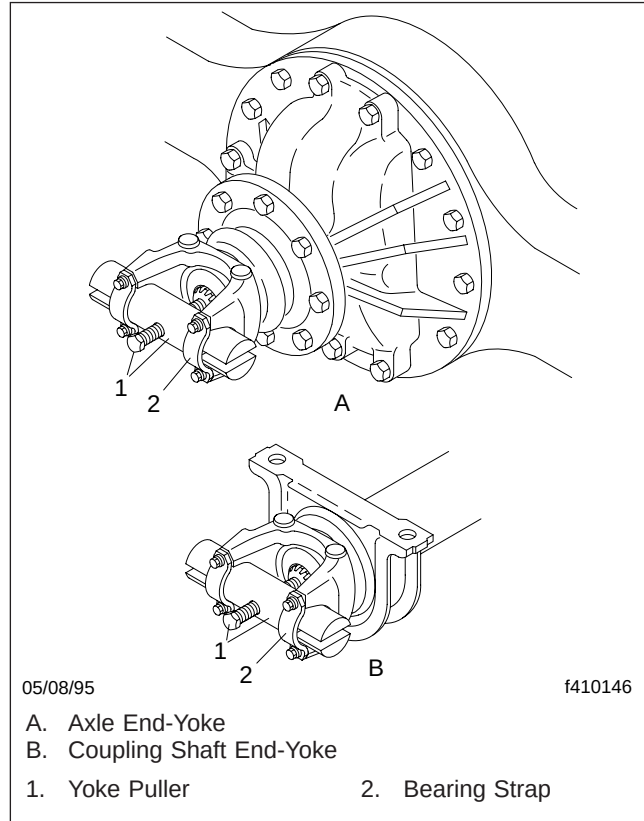
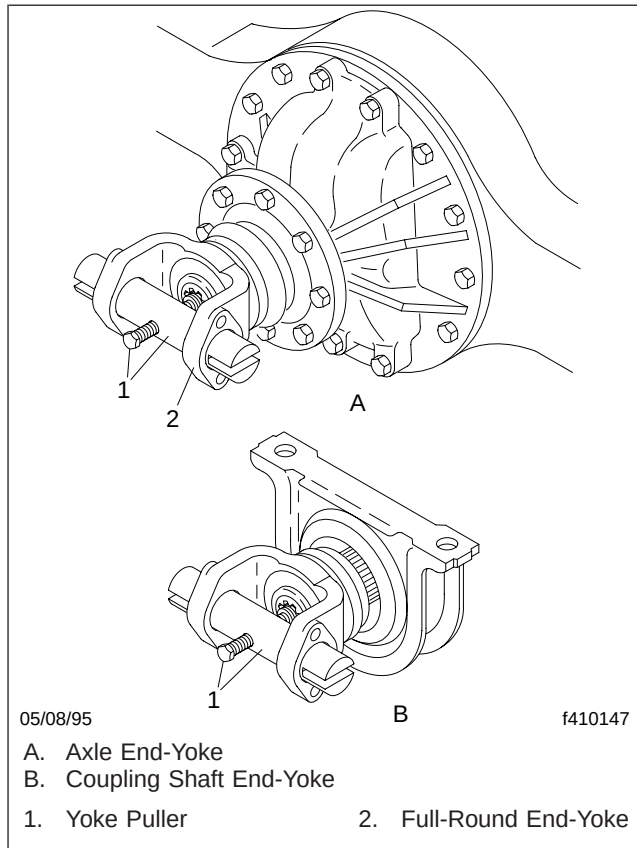
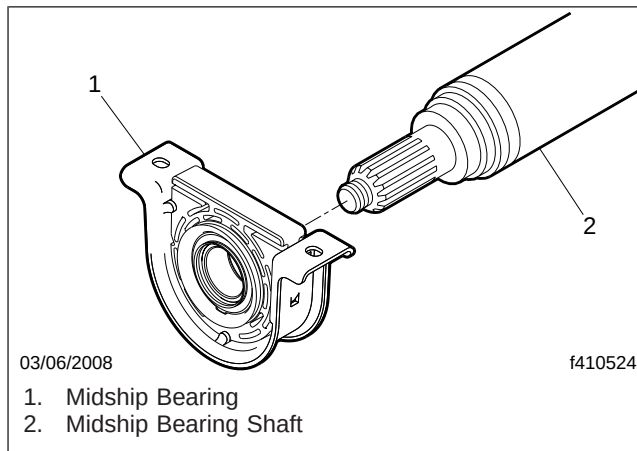

Fig. 13, Removing a Half-Round End-Yoke
Fig. 14, Removing a Full-Round End-Yoke
Fig. 15, Midship Bearing
3. Using a yoke puller, remove the end-yoke. See Fig. 13 for a half-round end-yoke, or see Fig. 14 for a full-round end-yoke.
3. Remove the end-yoke; see Fig. 13 for a half-round end-yoke, or see Fig. 14 for a full-round end-yoke. Then, remove the midship bearing as follows. See Fig. 15.
- 3.3 Using a yoke puller, remove the end-yoke. See Fig. 13 for a half-round end-yoke, or see Fig. 14 for a full-round end-yoke.
- 3.4 Use a hammer and a brass drift to remove the midship bearing. See Fig. 15.